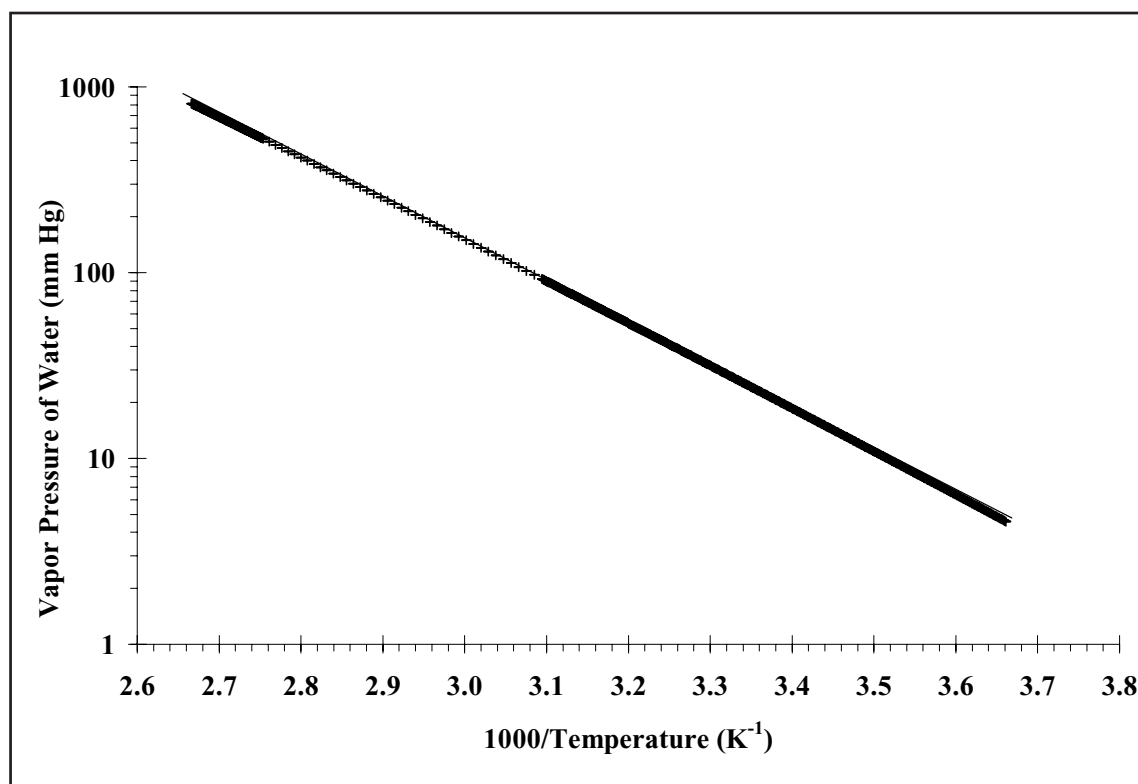

Figure 2. Clausius-Clapeyron plot for water vapor pressures.^[4]
At this point in the course, the students know that they should plot pressure on a logarithmic scale on the y-axis and reciprocal temperature on the x-axis. Students are asked to plot $1,000/T$ so that the values on the x-axis are between a more aesthetically pleasing 0 and 10, to estimate the slope ($-B$) and the intercept (A) graphically, to use DataFit to determine A and B , and finally to superimpose the curve fit (the solid line) on top of the experimental points (Figure 2).
a straight line through the portion of the data that appears to be linear, one can estimate the slope (-B) as -2200 and the intercept (A) as 109 from Figure 2. Interestingly, there are slight differences in the DataFit estimates of the curve fit parameters, depending on whether the logarithm of the pressure data and the inversion of the temperature data are taken before curve fitting in DataFit or not (Table 2). In the case where the data are not so linearized before entry into DataFit and then a nonlinear model is generated in DataFit, the points at low vapor pressures are de-emphasized relative to the other points.